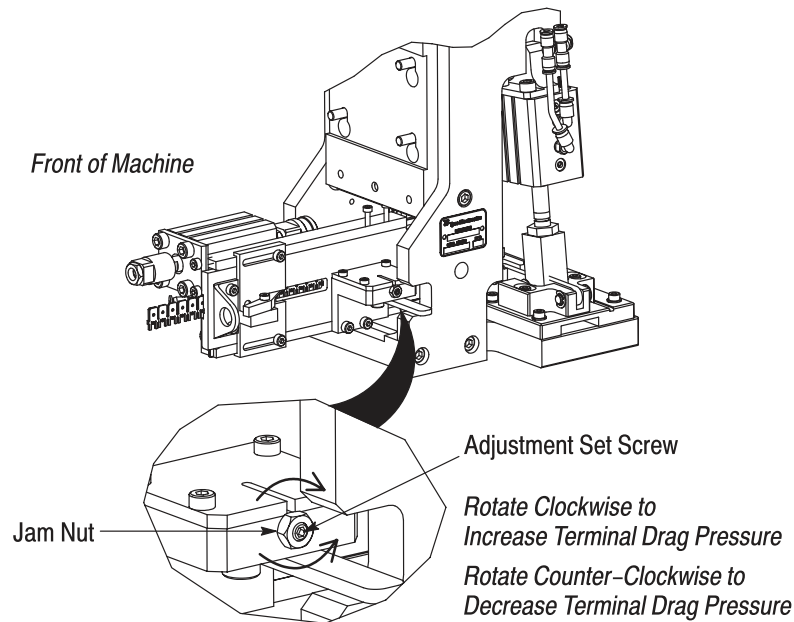

Figure 17
5.14. Terminal Drag Pressure Adjustment (Refer to Figure 17)